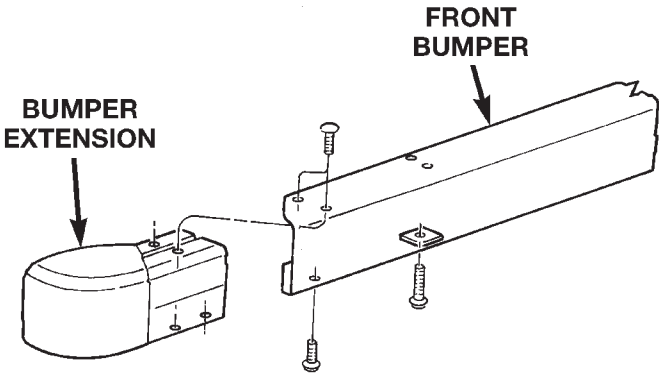

Fig. 2 Bumper Extension
- (1) Remove the screws attaching the bumper extension to the bumper (Fig. 2).
- (2) Separate the extension from the bumper.